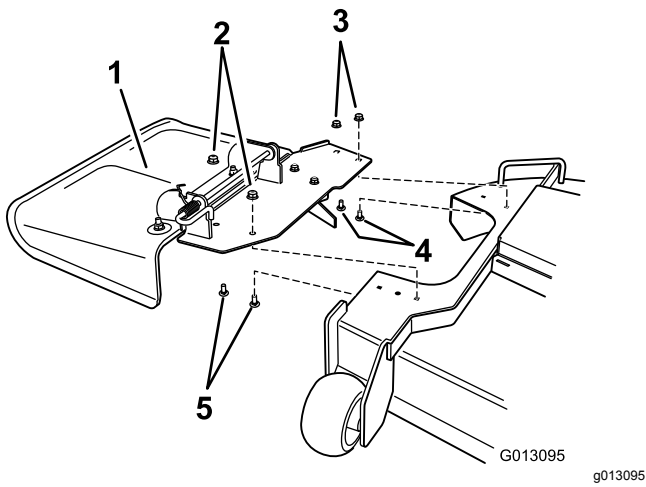

Figure 16
1. Remove fasteners that secure the deflector assembly to the mower deck (Figure 16).